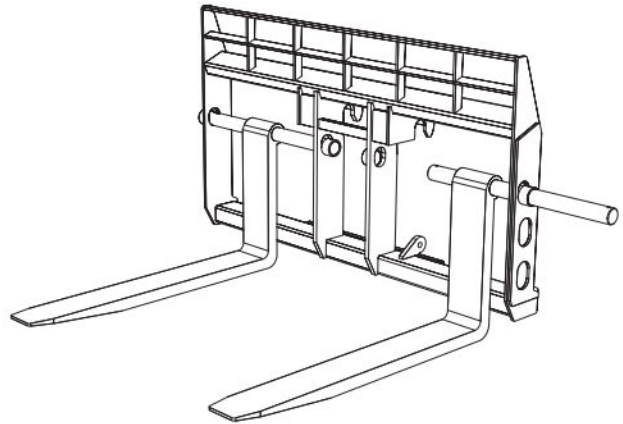

Figure 2-20 Changing Forks
3. Draw the bar out of the fork eye and attachment side plate, being careful that the fork doesn't fall over, causing possible injury (Figure 2-20).